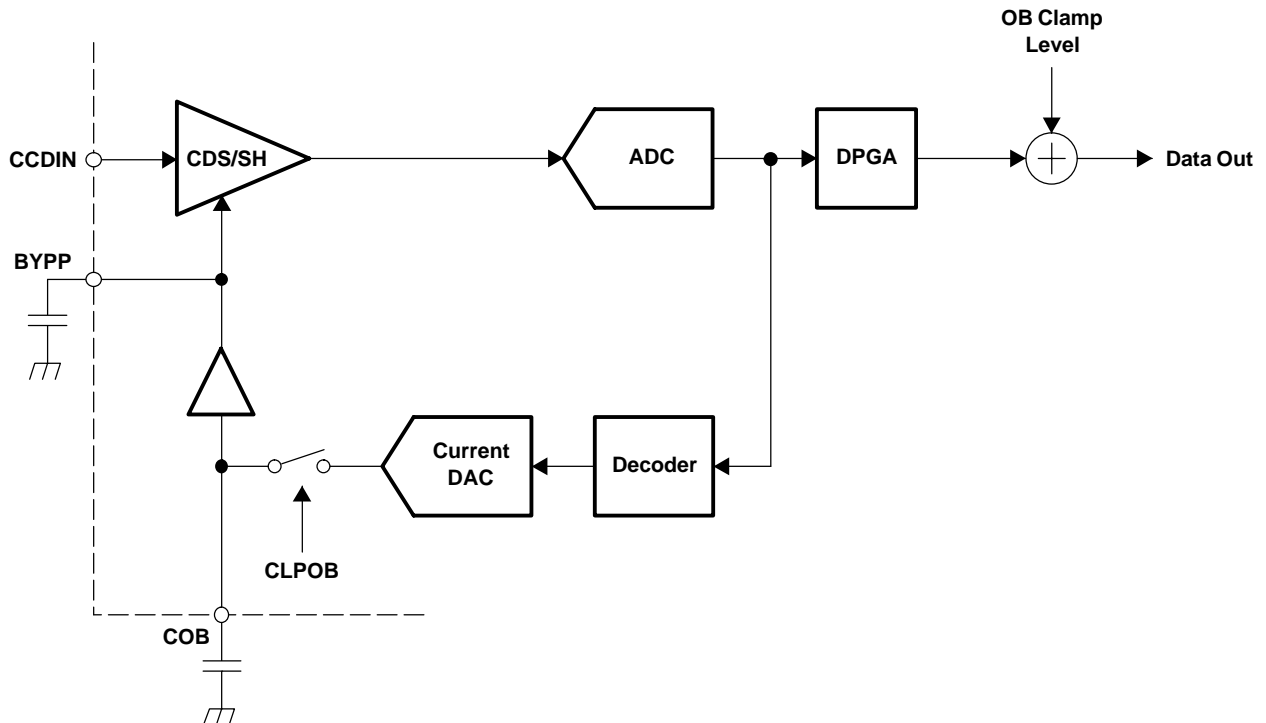

Figure 4. OB Loop and OB Level Clamp
The VSP5000 device has a built-in self calibration circuit (OB loop), which compensates the OB level by using the optical black (OB) pixels that are output from the CCD image sensor. Figure 4 shows a block diagram of the OB loop and OB clamp circuit.